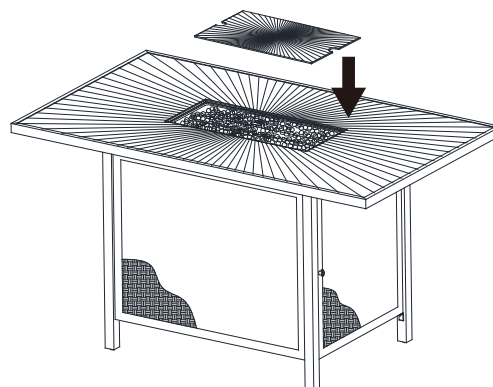

Figure 10
12. Place the burner cover (A) onto the fire bowl when not in use to protect it from the elements or when fire pit is cooled COMPLETELY after use (see Figure 10).